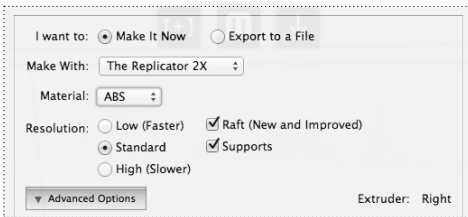

Fig. 10.13
11. In the Make dialog, ensure that the following boxes are checked [Fig 10.13]: